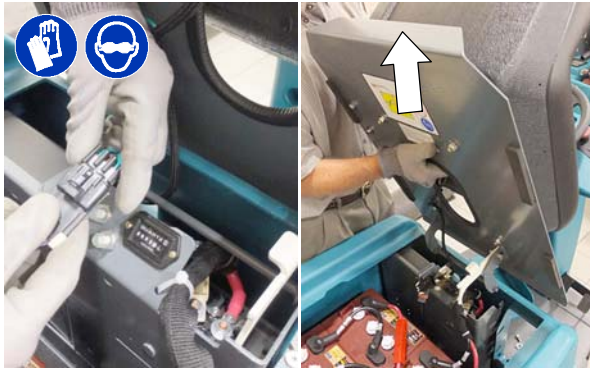

Fig. 1
5. Disconnect the main wire harness from the seat and remove the seat assembly from the machine. Set the seat assembly aside. (Fig. 1)